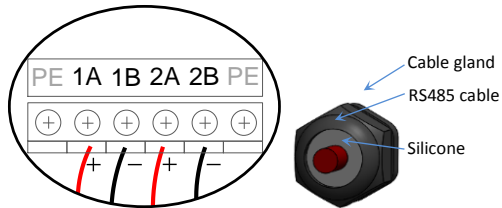

Figure 5.16 Connecting RS485 wires to the terminal block
- Step 3 : Connect the positive and negative signal wires from the data logger to 1A and 1B on the terminal block respectively, and connect 2A and 2B on the terminal block of this inverter to 1A and 1B on the terminal block of another inverter respectively (as shown in Figure 5.16). Tighten all screws on all terminal blocks. Tighten the nuts on “RS485 IN” and “RS485 OUT” cable glands and add proper waterproof measure (ex: add silicone). To prevent the inverter from being damaged by small animals or moisture, gaps in the cable gland must be sealed with silicone as illustrated. Put the cover onto the wiring chamber (oval-shape holes on the short side of the cover must face the floor) and then tighten the four screws on the cover with 3 N•m torque.